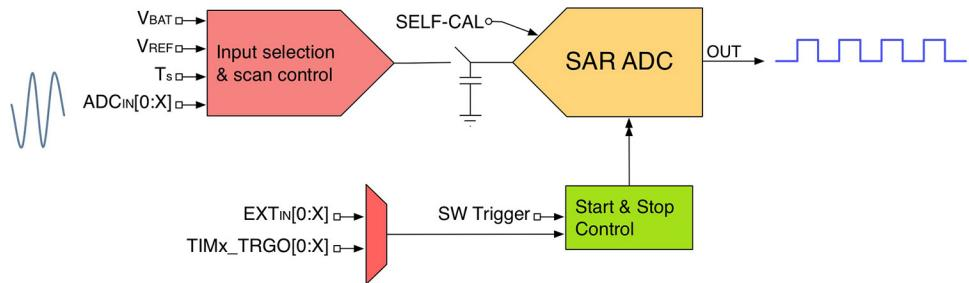
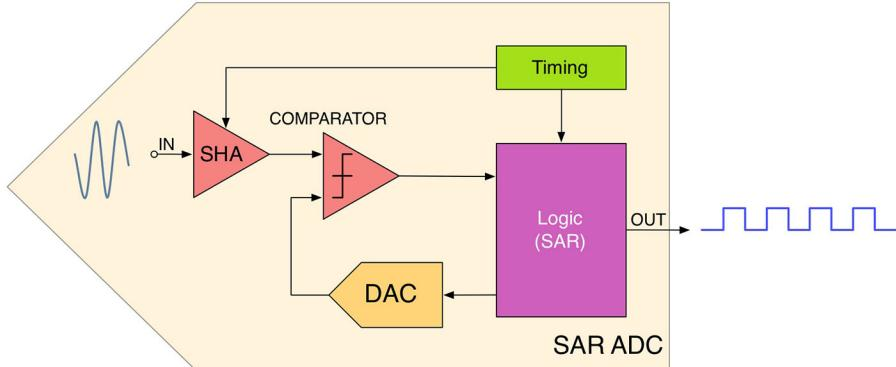
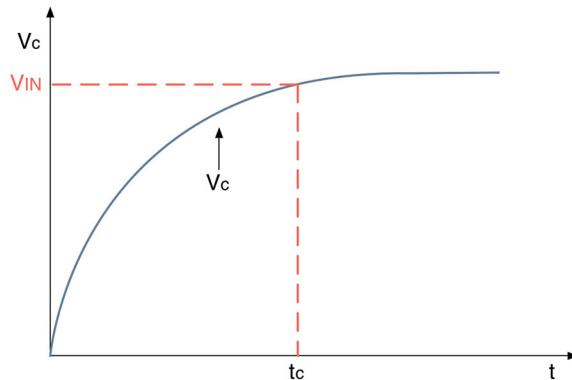

Figure 12.1: The simplified structure of an ADC
Figure 12.2: The internal structure of a SAR ADC
Figure 12.4: The effect of the ADC resistance on the analog signal source
Figure 12.1 schematizes the structure of the ADC². An *input selection and scan control unit* performs the selection of the input source to the ADC. Depending on the conversion mode (single, scan or continuous mode), this unit automatically switches among the input channels, so that everyone can be sampled periodically. The output from this unit feeds the ADC.
Figure 12.1 also shows another important part of the ADC: the *start and stop control* unit. Its role is to control the A/D conversion process, and it can be triggered by software or by a variable number of input sources. Moreover, it is internally connected to the TRGO line of some timers so that time-driven conversions can be automatically performed in DMA mode. We will analyze this important
²Figure 12.1 is a simplified representation of the ADC. Since the ADC implementation can differ a lot among the several STM32 families, here we are going to consider a simplified view that clearly describes how the ADC unit is designed.
Figure 12.2 shows the main blocks forming the SAR ADC unit shown in Figure 12.1. The input signal goes through the SHA unit. As you can see in Figure 12.1, a switch and a capacitor are in series with the ADC input. That part represents the *Sample-and-Hold* (SHA) unit shown in Figure 12.2, which is a feature available in all ADCs. This unit plays the important role to keep the input signal constant during the conversion cycle. Thanks to an internal timing unit, which is regulated by a configurable clock as we will see later, the SAR constantly connects/disconnects the input source by closing/opening the “switch” in Figure 12.1. To keep the voltage level of the input constant, the SHA is implemented with a network of capacitors: this ensure that source signal is kept at a certain level during the A/D conversion, which is a procedure that requires a given amount of time, depending on the conversion frequency chosen.
The charging of the internal capacitor network (that we indicate with C_{ADC}) is controlled by the switch in **Figure 12.1** having a resistance equal to R_{ADC} . With the addition of source resistance (that is, $R_{TOT} = R_{ADC} + R_{IN}$), the time required to fully charge the hold capacitor increases. **Figure 12.4** shows the analog signal source resistance effect. The effective charging of C_{ADC} is governed by R_{TOT} , so the charging time constant becomes $t_C = (R_{ADC} + R_{IN}) \times C_{ADC}$. If the sampling time is less than the time required to fully charge the C_{ADC} through R_{TOT} ($t_S < t_C$), the digital value converted by the ADC is less than the actual value. In general, it is necessary to wait a multiple of t_C to achieve a reasonable accuracy.
- **ClockPrescaler**: defines the speed of the clock (ADCCLK) for the analog circuitry part of ADC. In the previous paragraph we have seen that the ADC has an internal timing unit that controls the switching frequency of the input switch (see **Figure 12.2**). The ADCCLK establishes the speed of this timing unit, and it impacts on the number of samples per seconds, because it defines the amount of time used by each conversion cycle. This clock is generated from the peripheral clock divided by a programmable prescaler that allows the ADC to work at $f_{PCLK}/2, 4, 6$ or 8 (refer to the datasheets of the specific MCU for the maximum values of ADCCLK and its prescaler). In some STM32 MCUs the ADCCLK can also be derived from the HSI oscillator. The value of this field affects the ADCCLK speed of all ADCs implemented in the MCU.